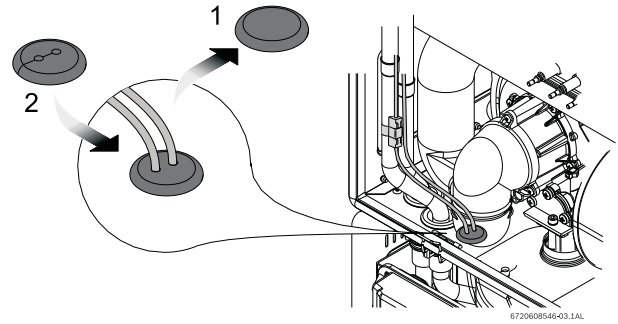
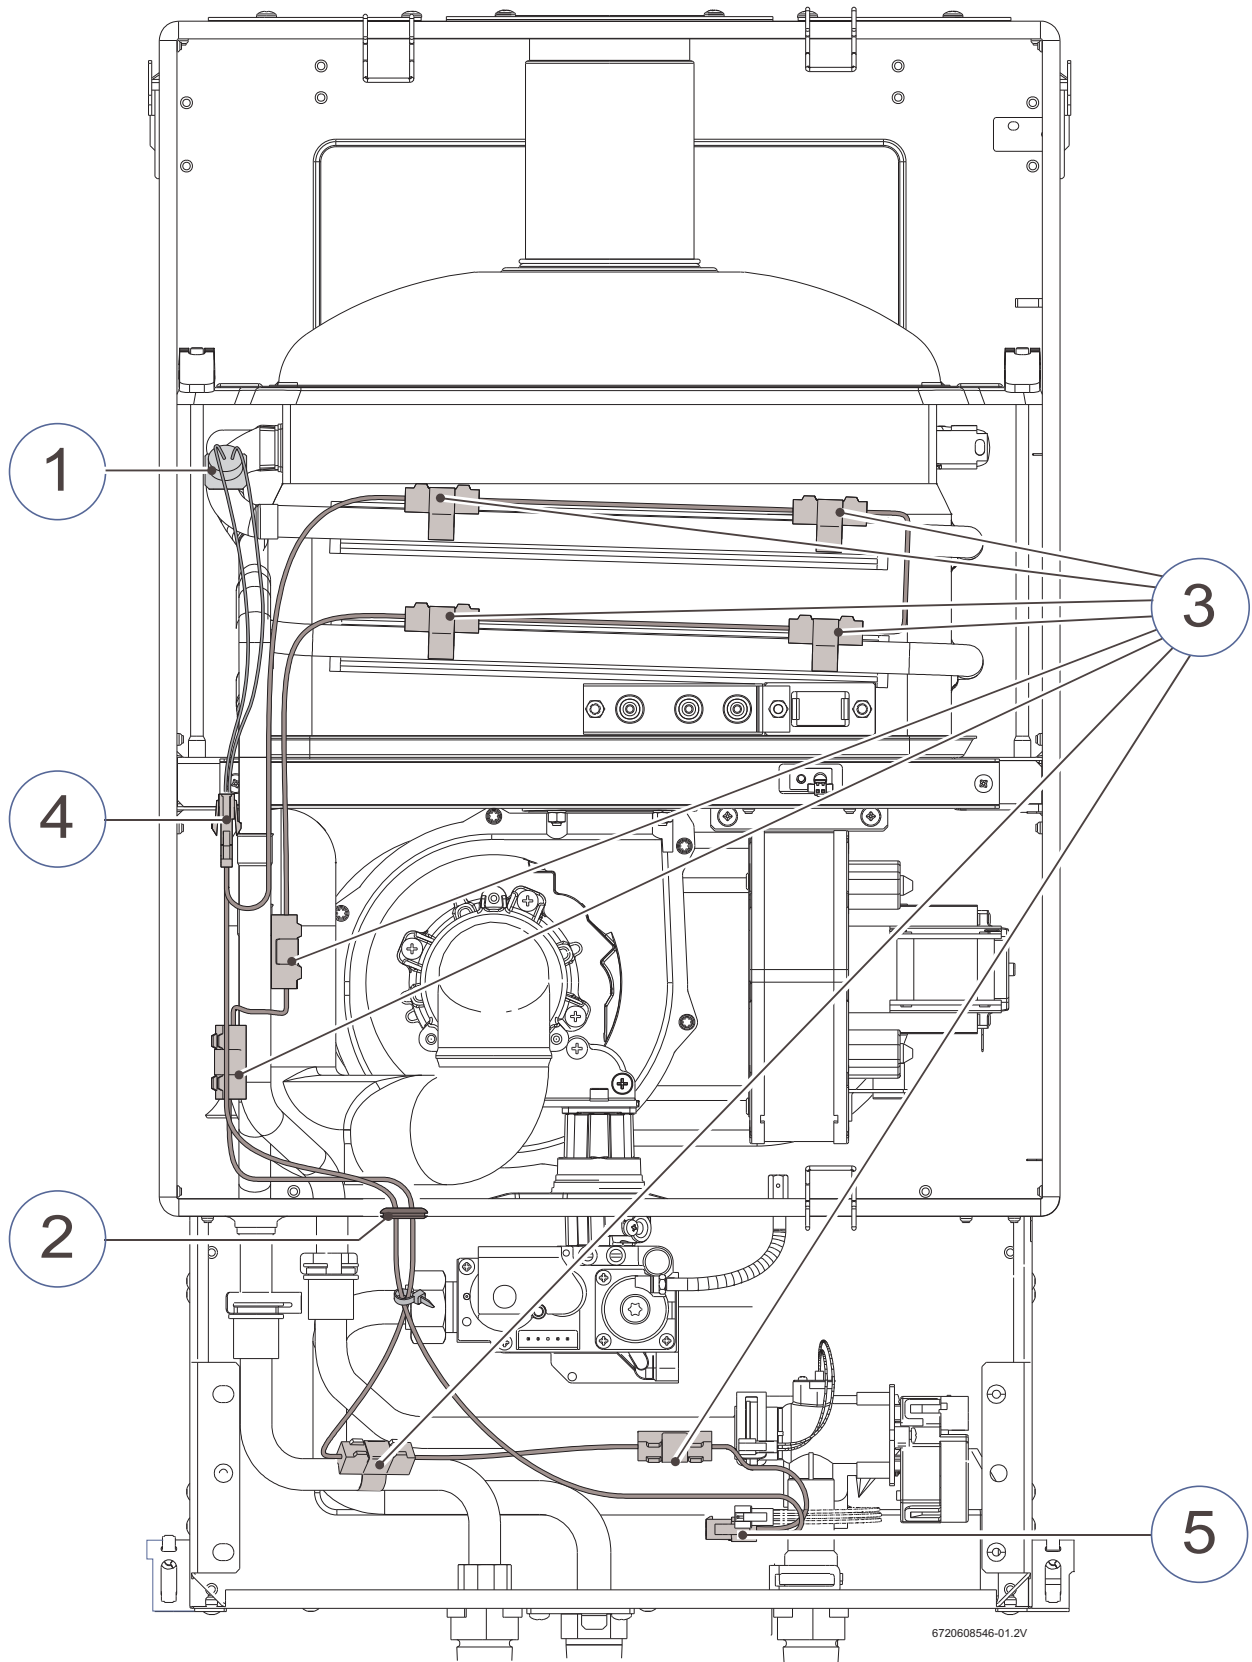
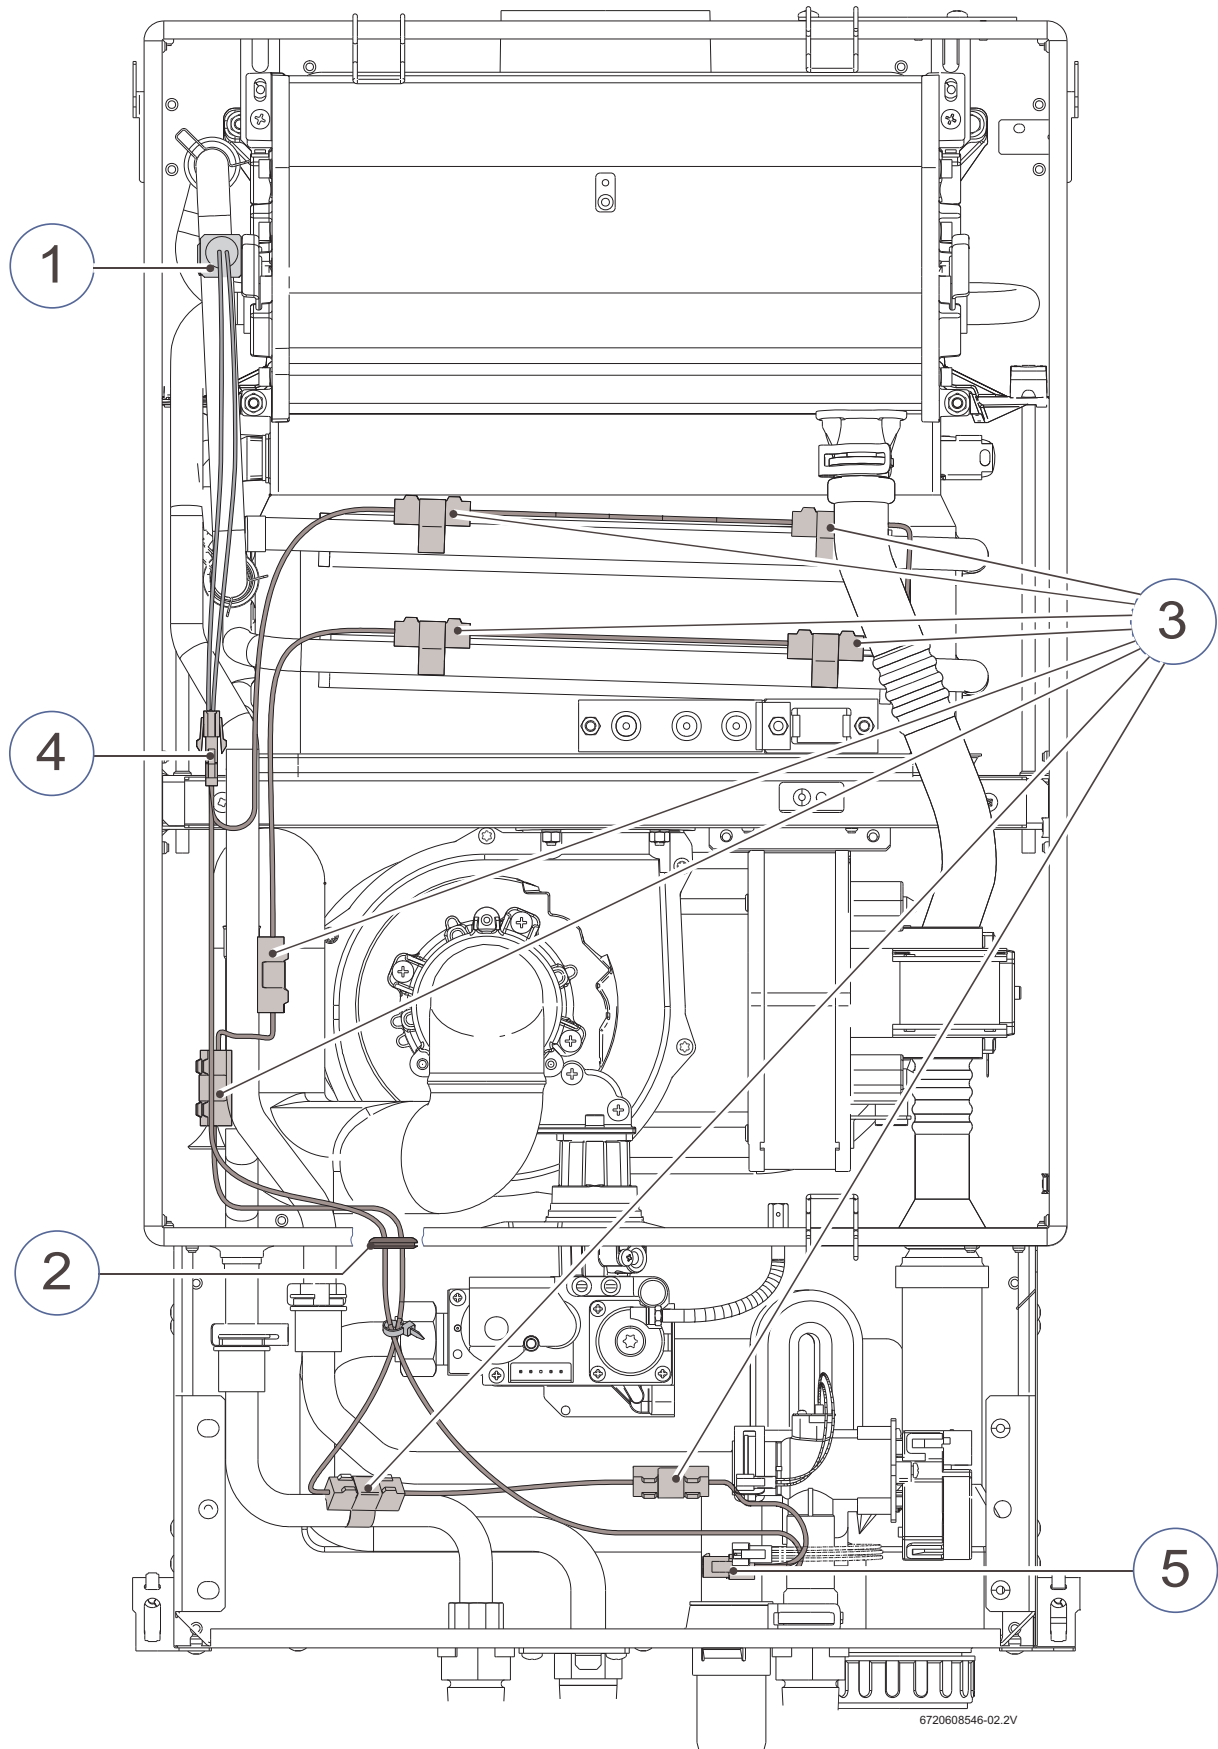
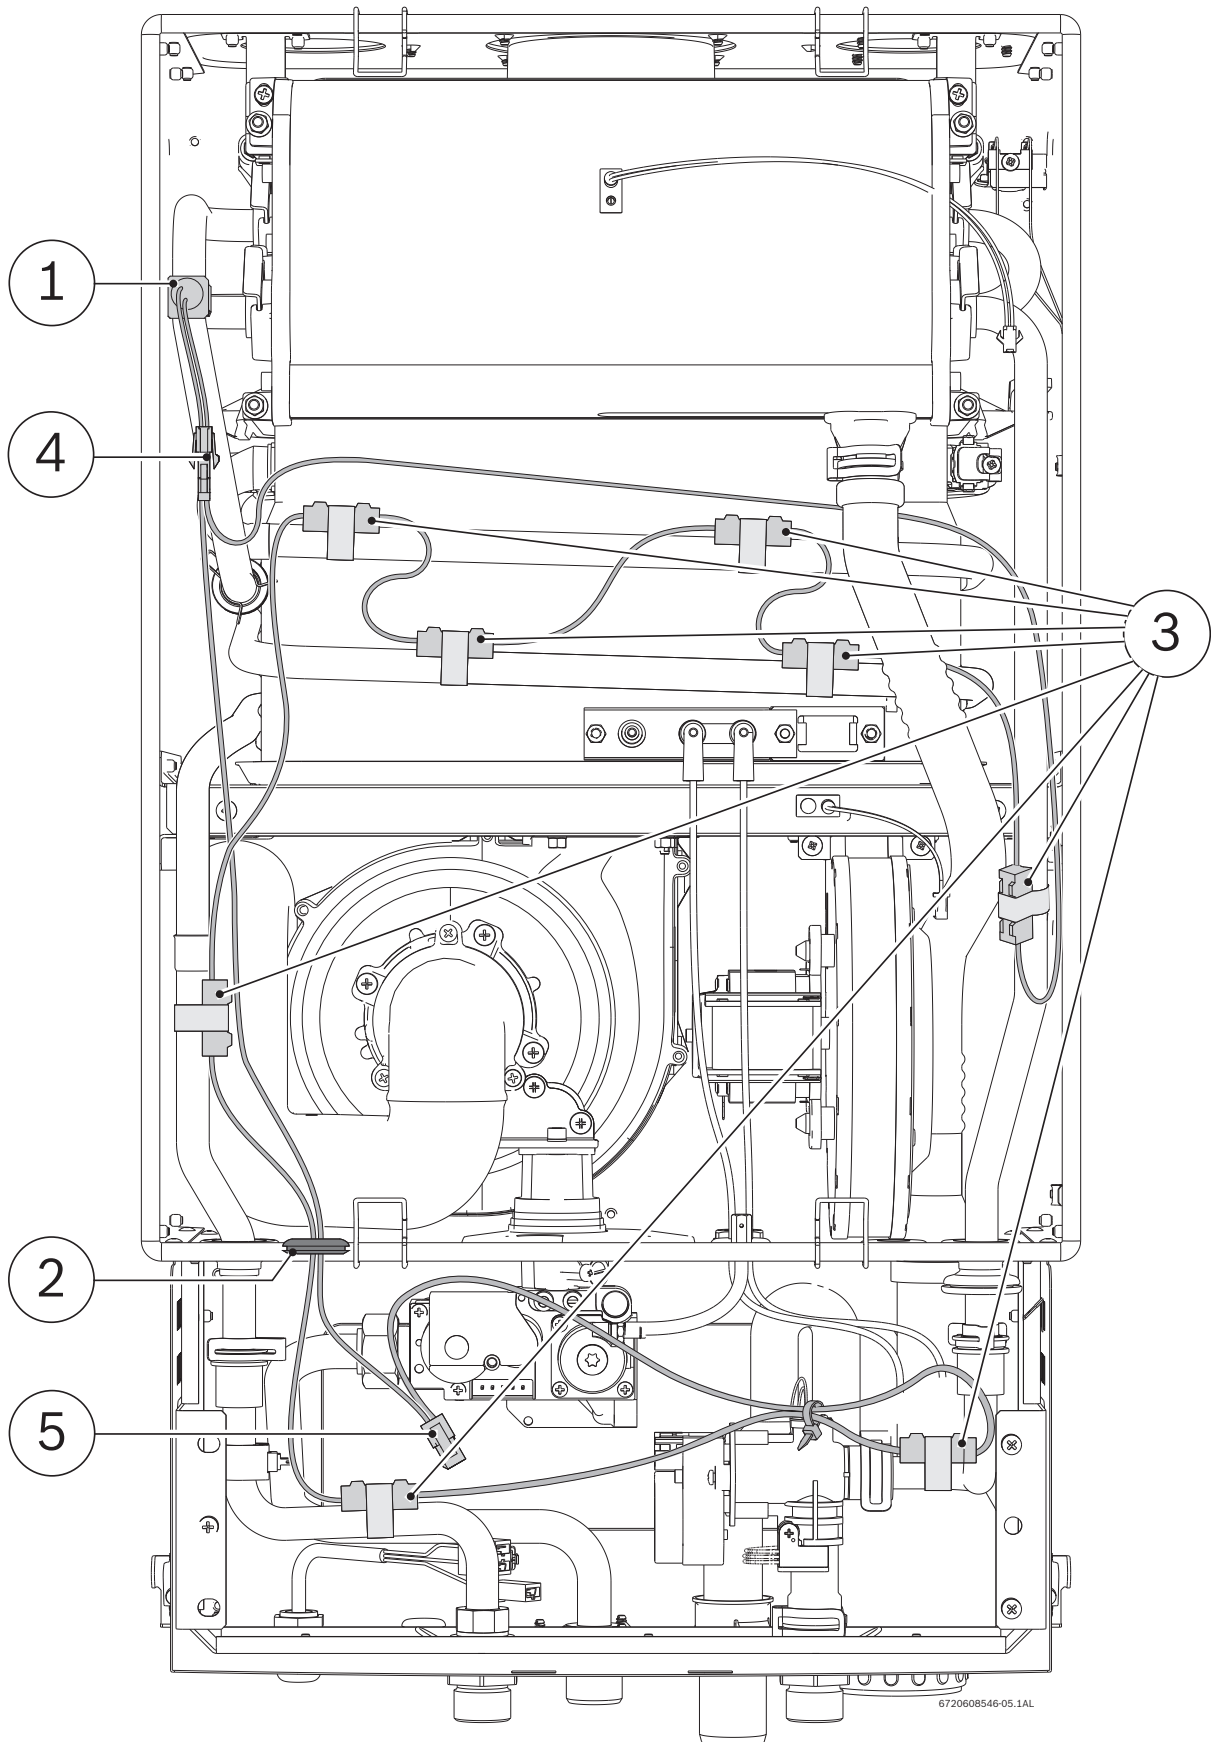

Fig. 5 Replacement of rubber grommet
Fig. 8 GWH 715 ES, 2400 ES, 2700 ES, Evolution 500
Fig. 9 GWH C 800 ES, Integra 500, C 1050ES, C 950 ES
Fig. 10 C 1210 ES/ESC
- ▶ **1.** Clip ceramic heating elements to heater as shown in Fig. 8 , 9 and 10, pos. 3.
- ▶ **2.** Replace existing rubber grommet with one supplied in the kit, see Fig. 5. Position two heating elements on piping in lower box by passing cables through supplied grommet. (See Fig. 8, 9 and 10, pos. 2).
- ▶ **3.** Attach temperature sensor to the cold water pipe as shown in Fig. 8, pos. 1, for models 830 ES, 940 ES, 2400 ES and 2700 ES, Fig. 9, pos. 1, for model C 950 ES, C 1050 ES and Fig. 10, pos. 1, for model C 1210 ES/ESC.
- ▶ **4.** Attach female connector from temperature sensor to male connector on heating circuit. (See Fig. 8, 9 and 10, pos. 4).
- ▶ **5.** Attach male connector from power supply cord to the female connector on heating circuit (See Fig. 8, 9 and 10, pos. 5).